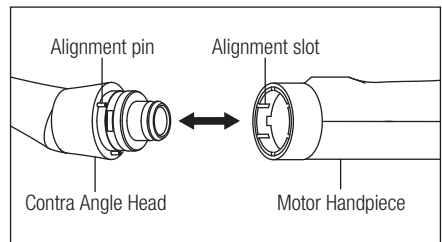

Fig. 2
- 2) Push the Contra Angle Head till its alignment pins click into the alignment slots in the Motor Handpiece. The Contra Angle Head can be mounted at 6 patterns of angles. (Fig.2)